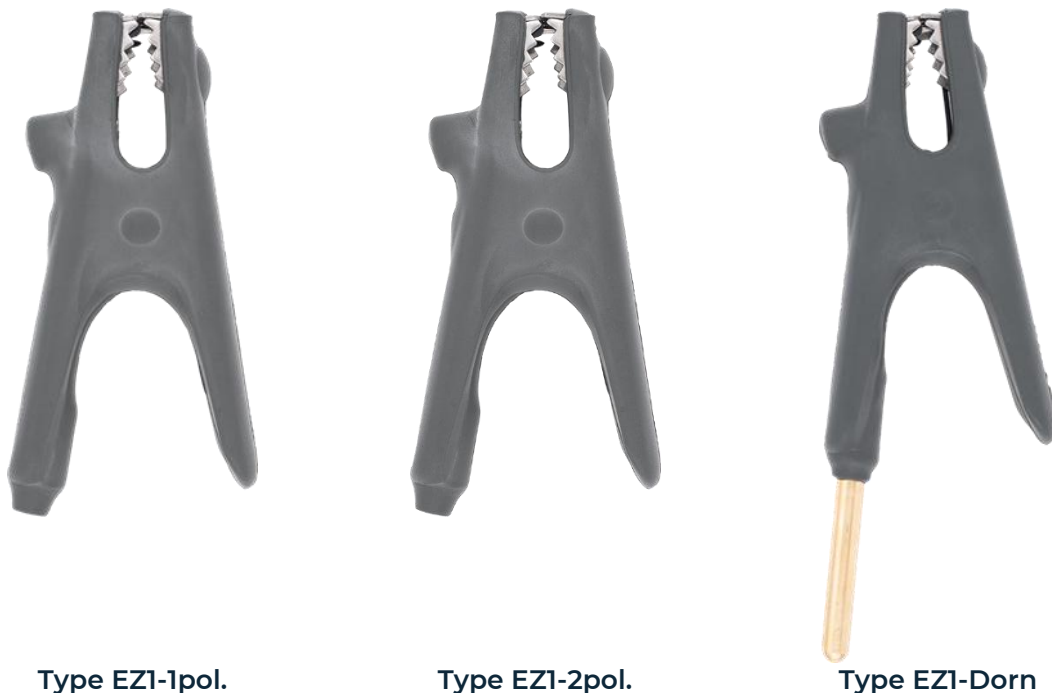

Figure 2: Versions of grounding clamps
Step 5: Clamp a wooden piece (approx. 25 mm thick) between the jaws, so that the tong handles are in parallel (fig. 2).